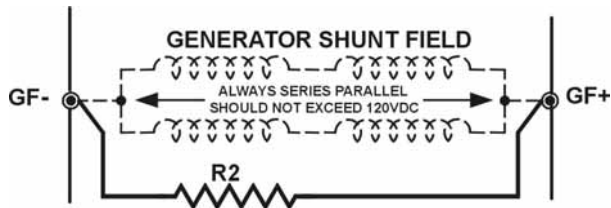

Figure 1-14
- The third is for the generator field, and consists of current conductors that wire from the controller to the Field windings of the generator. [See Figure 1-14.]